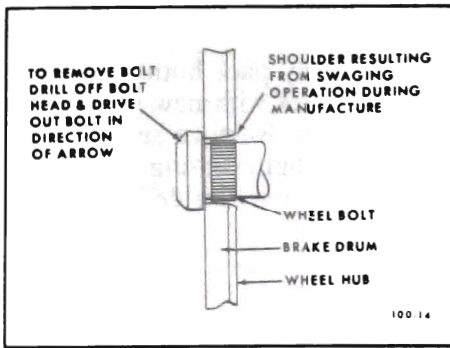

Figure 100-4 Front Wheel Bolt Pressed Into Place in Hub and Drum Assembly
The wheel bolts are pressed into the front hub and drum assembly forming a shoulder on each bolt by a swaging operation. See Figure 100-4. To replace a wheel bolt, the original
2. Secure hub and drum assembly in a vise and mark center of the bolt head with a center punch. Drill 1/8" pilot hole in head of bolt; re-drill head using a 9/16" bit. Cut off any remaining portion of bolt head using a chisel and then drive out bolt with drift. See Figure 100-4.